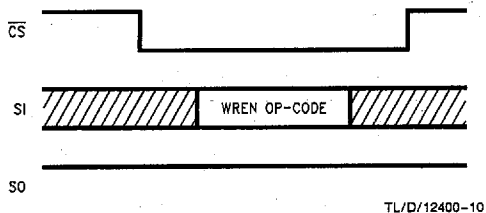

FIGURE 8. Write Enable
**WRITE ENABLE (WREN):** When  $V_{CC}$  is applied to the chip, it "powers up" in the write disable state. Therefore, all programming modes must be preceded by a WRITE ENABLE (WREN) instruction. Additionally the  $\overline{WP}$  pin must be held high during a WRITE ENABLE instruction. At the completion of a WRITE or WRSR cycle the device is automatically returned to the write disable state. Note that a WRITE DISABLE (WRDI) instruction or forcing the  $\overline{WP}$  pin low will also return the device to the write disable state. See Figure 8.